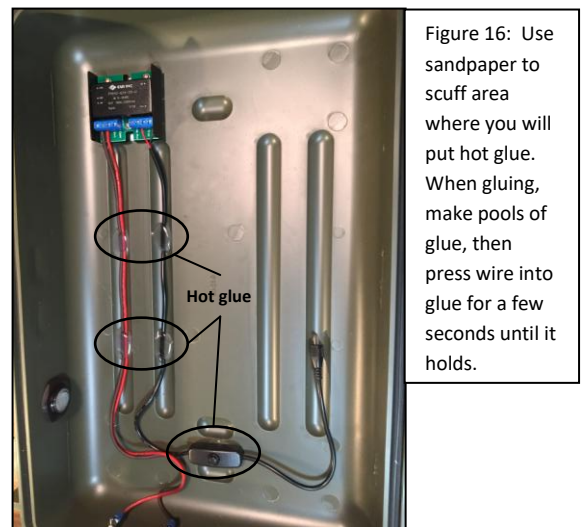

Figure 16: Use sandpaper to scuff area where you will put hot glue. When gluing, make pools of glue, then press wire into glue for a few seconds until it holds.
- 8) Secure the hook-up wire and power cables to the inside of the case using hot glue. Using the sandpaper to scuff the locations where you put glue can help longevity. Glue each wire in two locations and route any excess wire to the front-right corner of the case to keep it out of the way (Figure 16). Glue the switch on the power cable in an easily accessible location on the right or
rear-right portion of the case interior (Figure 16). Be sure that the cable can reach the RPi computer in the center of the case.